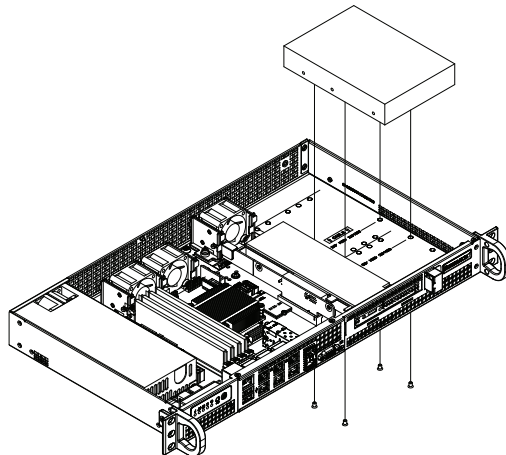
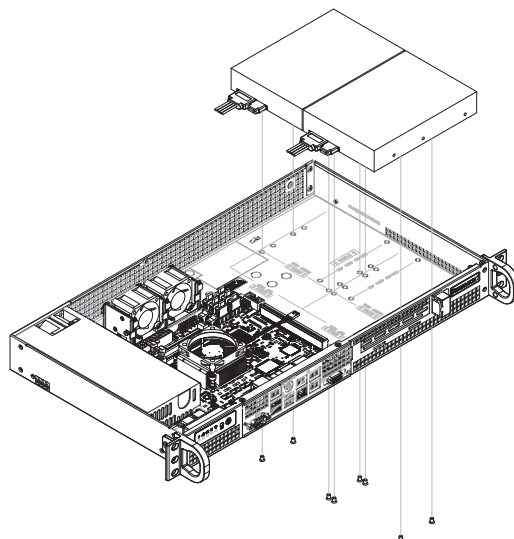

Figure 3-5. One 3.5" HDD and One Low-Profile Expansion Card
Figure 3-6. Two 3.5" HDDs and No Expansion Card
1. Place the hard drives into the chassis as illustrated in Figure 3-5 or Figure 3-6. Orient the drives with the cable connections facing the rear of the chassis.